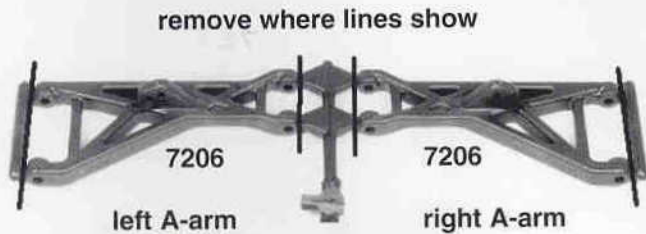

Fig. 10
□ **Figs. 10, 11, 11A & 11B** Remove the bag containing the black suspension arms. Remove the #7206 front arms that look like fig. 10. This photo shows you which arm is right and which is left and it shows you where to trim the runners from the arms. The material is tough enough that you must remove the arms with a pliers. Then trim any remaining runner pieces with your X-acto® blade.